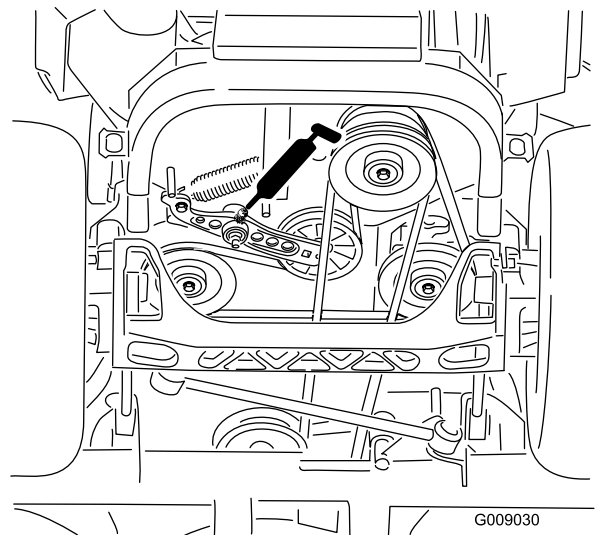

Figure 45
5. Grease the drive belt idler arm (Figure 45).